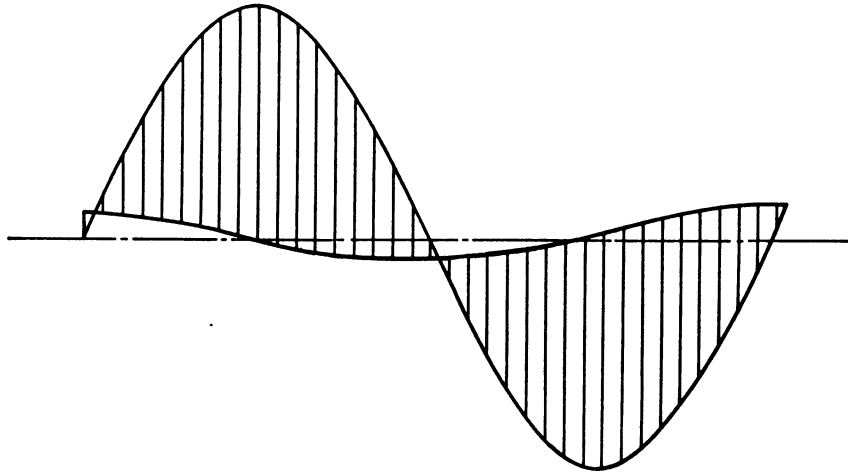

Fig. E3a Separation
- C. The 1 kHz is 90 $^{\circ}$  out of phase with the envelope of the composite signal (see Fig. E3a and b).
See Fig. E3a.
- b) Defect capacitor or coil in the Composite filter. See Figs. E3a and b.
- c) The oscilloscope is in ac mode. See Fig. E3a.